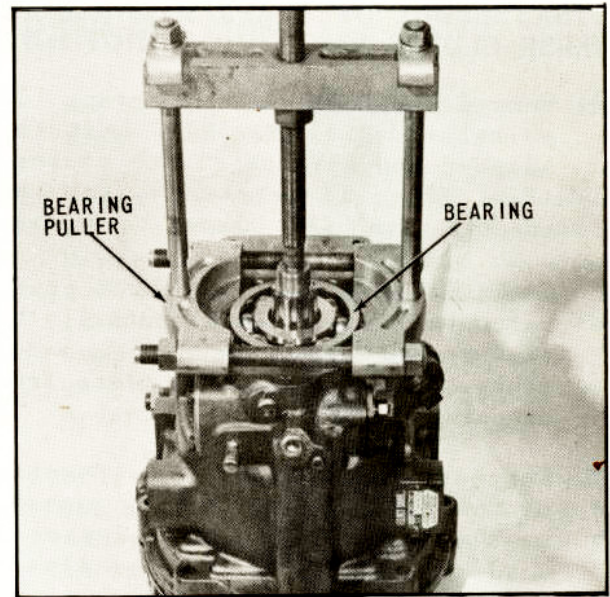

Fig. 15 Removing Bearing from Case
30. Using bearing puller, grasp bearing by exposed groove in outside diameter and gently pull bearing from case, (Fig. 15).